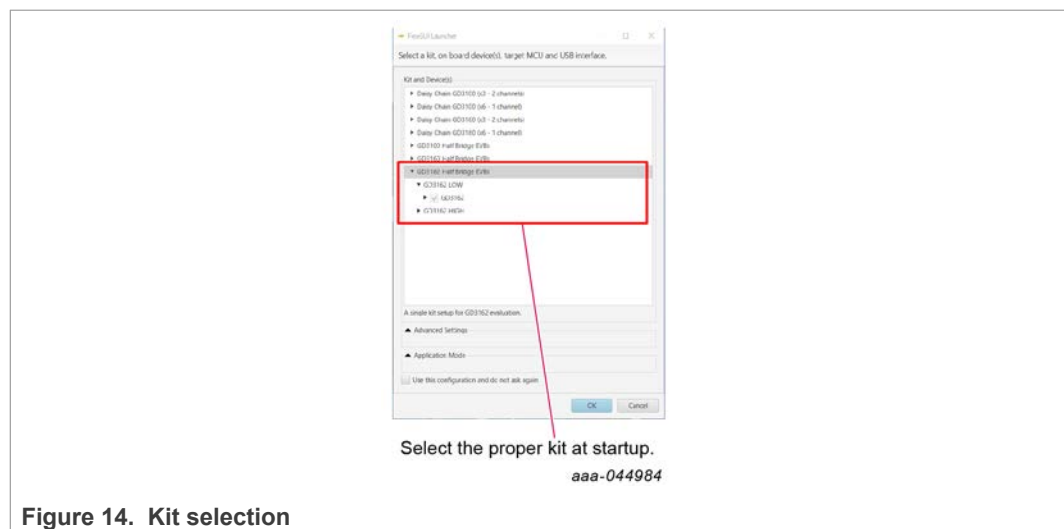

Figure 14. Kit selection
A way to check quickly that the microcode is programmed and the board is functioning properly, is to plug the KL25Z into the computer, open FlexGUI, and verify that the software version at the bottom is 6.4 or later (see Figure 14).
SPI messages can be realized graphically or in hexadecimal format. CSB is selectable to address one or both GD31xx on the board via daisy chain. See Figure 14 to Figure 34 for FlexGUI for GD31xx internal register read and write access.
- When you start the application, Figure 14 allows you to select the target application board, feature set (standard or daisy chain), target MCU, and USB interface. Leave all settings as shown.